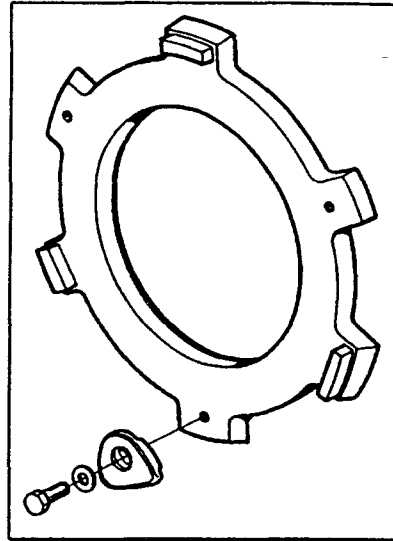

Fig.11
**#14009746 Dayton adaptor 22.5" (Fig.11).**